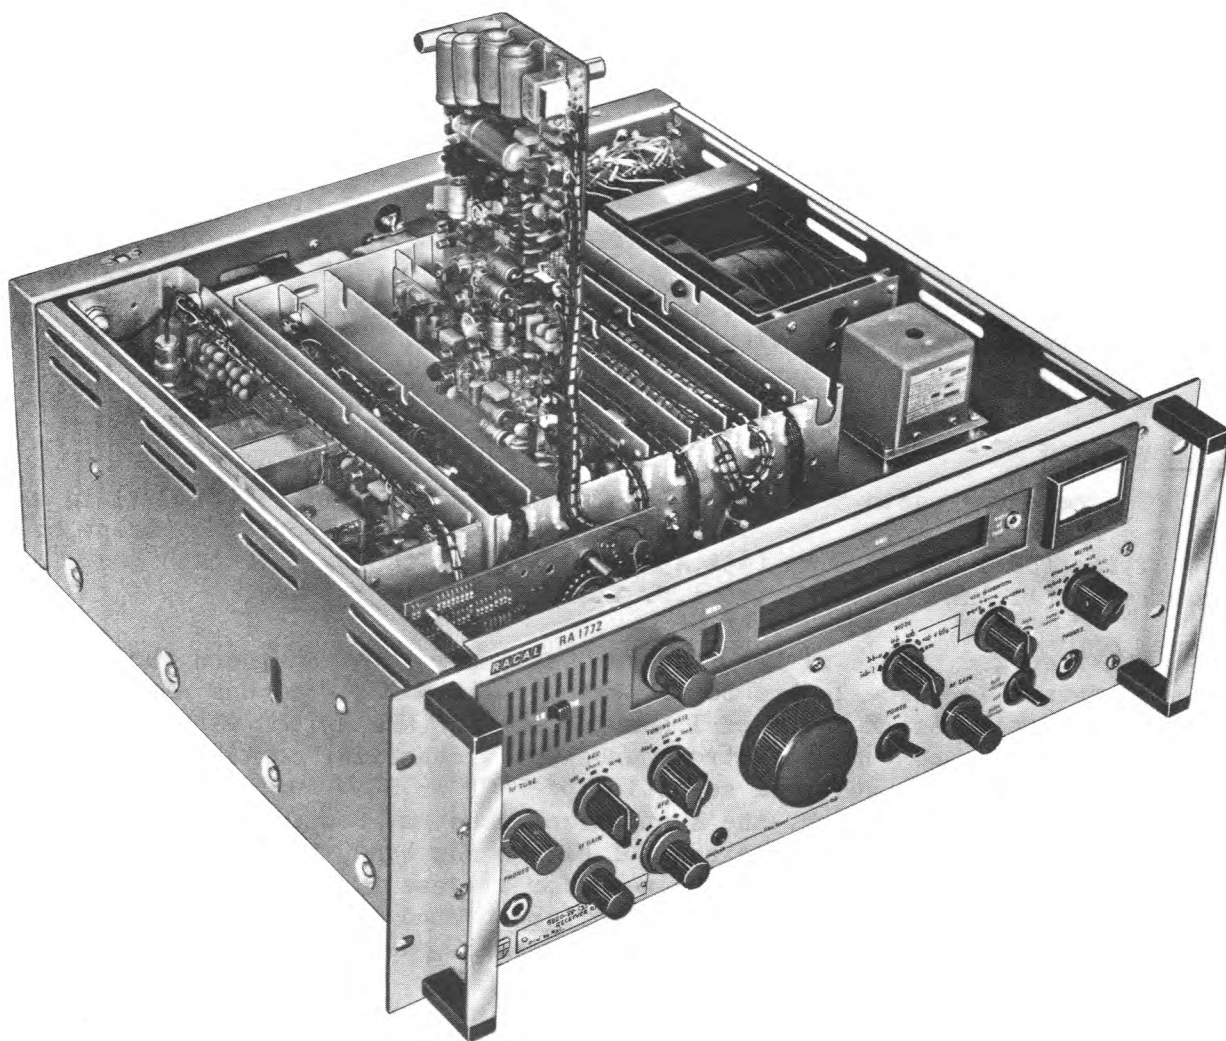
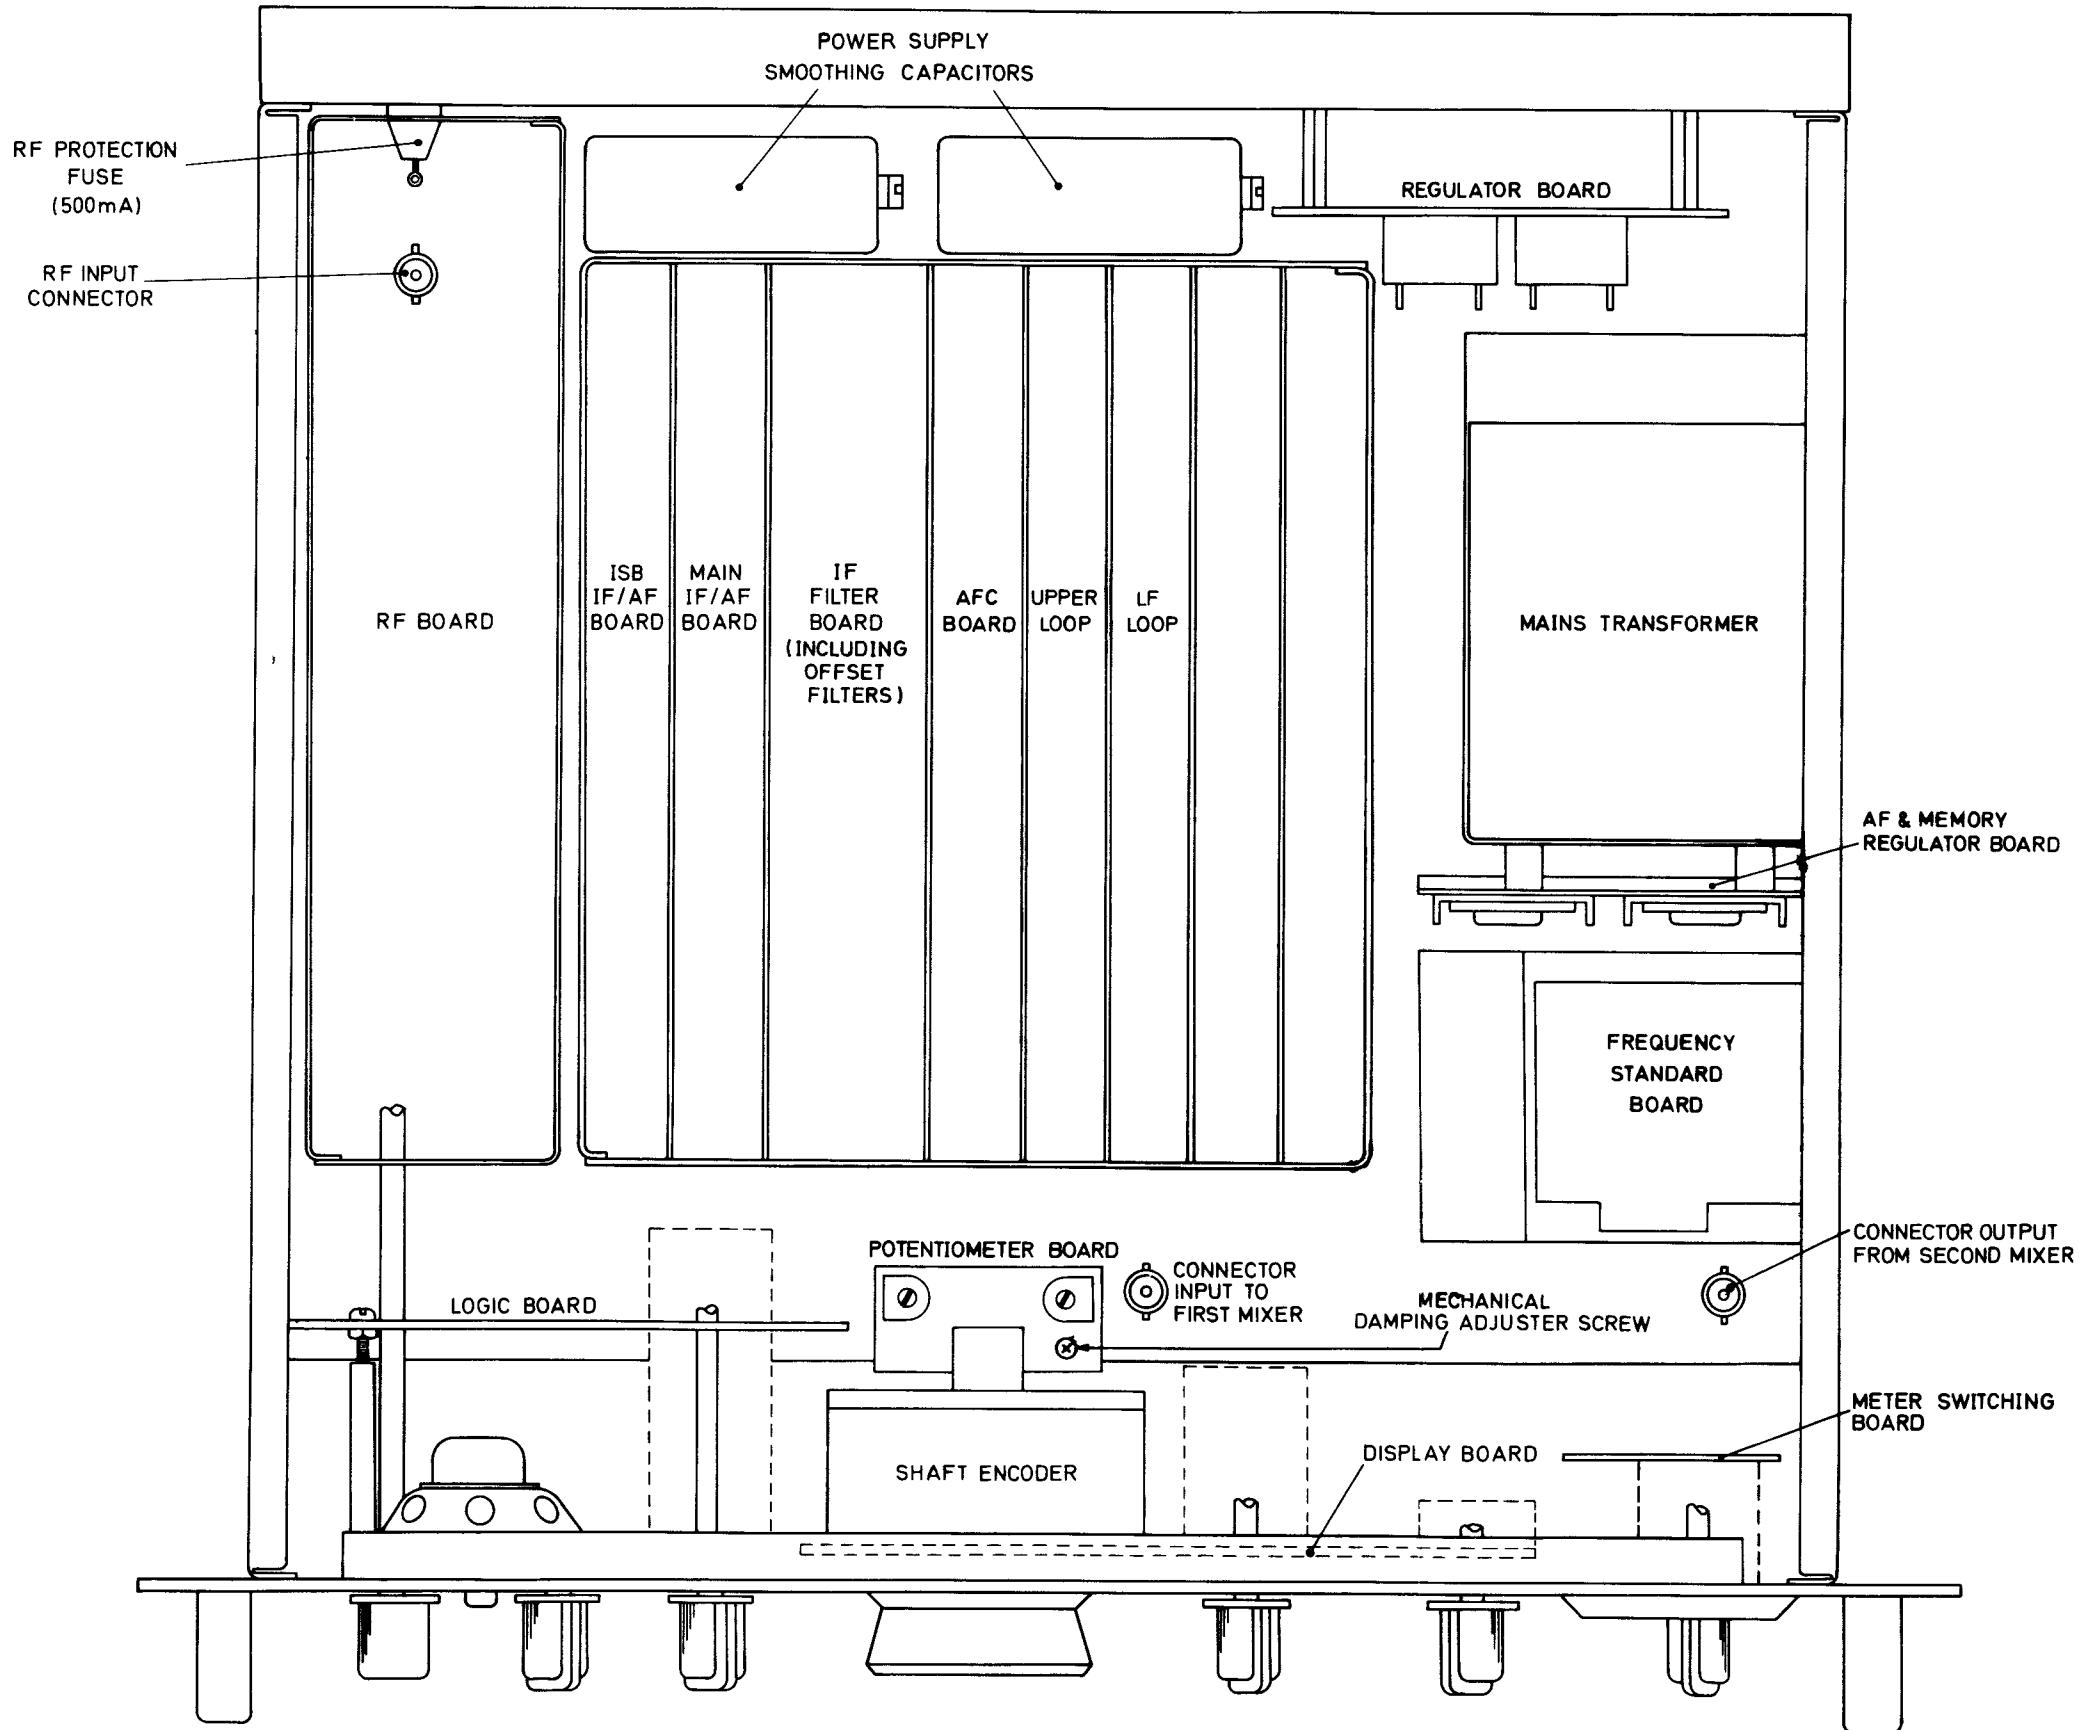

Fig.1 Receiver: general view
Fig. 2
1. The receiver radio 5820-99-635-9352 (Racal Type RA.1772) (fig. 1) is a fully synthesized, solid state, communications receiver providing reception facilities for l.s.b./u.s.b. (A3A,A3H,A3J), i.s.b. (A3B), a.m. (A3) and telegraphy (A1,A2H,A2J) with two i.f. filters offset by 1 kHz.
6 Mounted on the top of the cast chassis is an aluminium box structure which houses seven printed circuit boards, each individually screened (fig.2). These printed circuit boards may be hinged out and then fixed in position for servicing. Also mounted on the top of the chassis is the frequency standard module and the power supply transformer. The power supply regulator board is mounted on the inside of the rear panel and adjacent to this board are mounted the power supply smoothing capacitors. The power supply regulator output transistors are mounted on a heat-sink attached to the rear panel of the receiver. A further power supply board, the af and memory regulator board, is mounted adjacent to the power supply transformer. The display board (including the digital display) is mounted on the inside of the front panel, the logic board is attached to the front panel MHz switch, and the meter switching board is attached to the front panel METER switch.
8 The receiver may be safely operated (for servicing) with both the front and rear panel assemblies lowered in order to gain access to preset controls and other components. A general view of the receiver, with a printed circuit board in the raised position, is given in fig.1 whilst fig.2 shows the chassis layout as viewed from the top of the receiver.